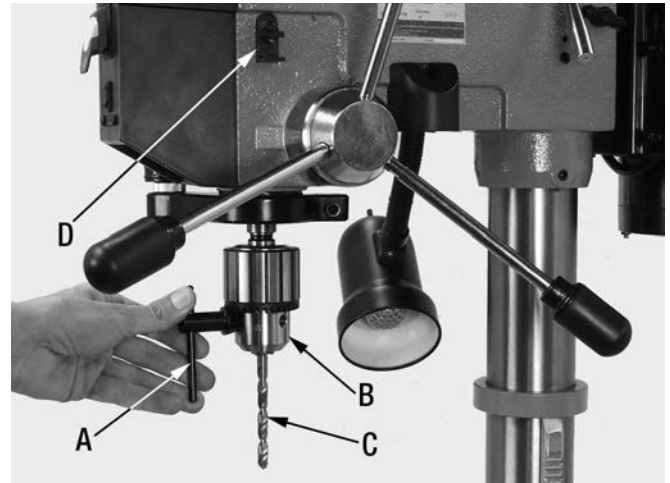

FIGURE 13
- 1) Insert the chuck key (A) Fig.13 into the chuck (B) as shown, turn chuck key counterclockwise to open the chuck jaws.
- 2) Insert a drill bit (C).
Note: This drill press comes with a convenient chuck key holder (D) Fig.13. Reposition chuck key in chuck key holder after adjustment to avoid misplacing the chuck key.